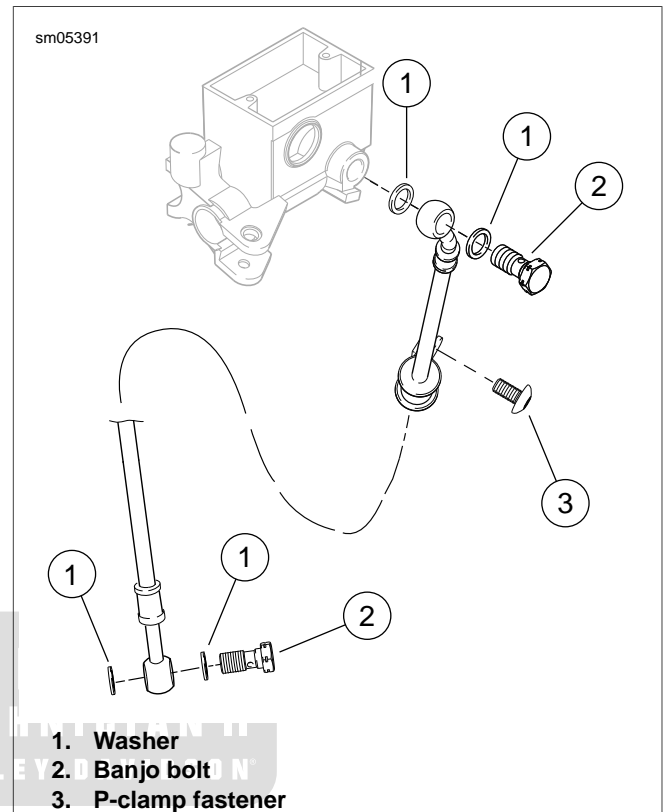

Figure 2-45. Brake Fluid Line
1. See Figure 2-45. Connect the brake fluid line to master cylinder/reservoir using two **new** copper washers (1) and a banjo bolt (2).